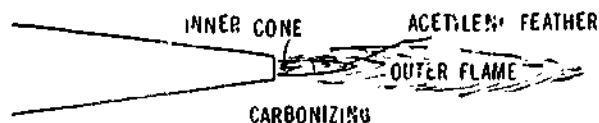

Figure 8-37. Carbonizing Oxy-acetylene Flame
**Carbonizing Flame** The carbonizing flame (Figure 8-37) has an excess of acetylene which is very rich in carbon and is characterized by